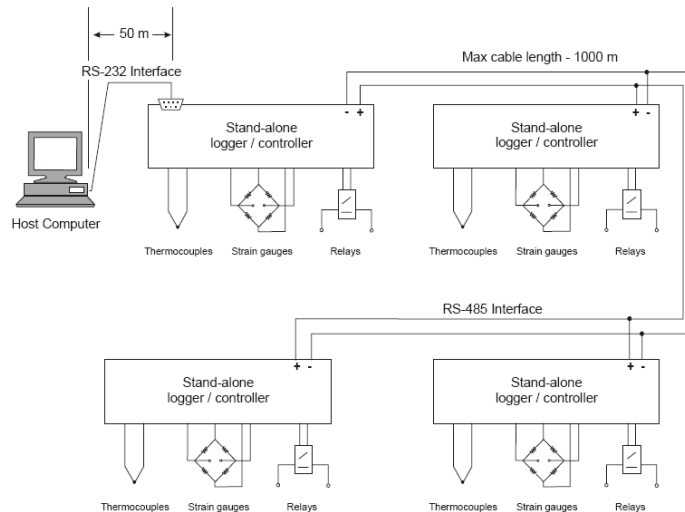

Figure 1.7
- Where an application requires more than one logger/controller, each unit is connected within an RS-485 multi-drop network. A signal unit, deemed to be the host unit, can be connected directly to the host computer via the RS-232 serial interface, as shown in Figure 1.7, thus avoiding any requirement for an RS-232 to RS-485 serial interface card.